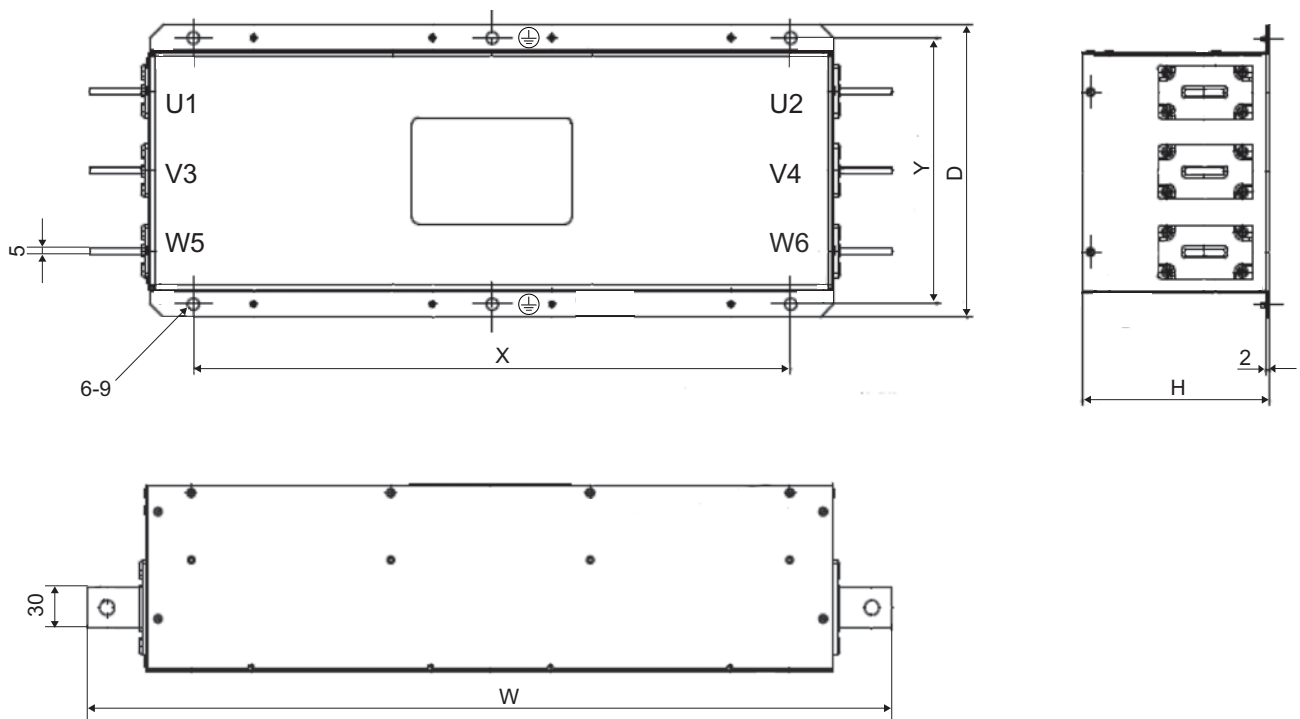

Figure D.10 EMC Filter Dimensions (2A0065 to 2A0130)
| 2A0065 | B84143B0320T176 | EPCOS | 320 | 20.7 (55) | 605 × 140 × 220 (23.8 × 5.5 × 8.6) | 200 × 450 (7.9 × 17.7) | Figure D.10 |
| 2A0090 | B84143B0320T176 | EPCOS | 320 | 20.7 (55) | 605 × 140 × 220 (23.8 × 5.5 × 8.6) | 200 × 450 (7.9 × 17.7) | Figure D.10 |
| 2A0130 | B84143B0400T176 | EPCOS | 400 | 20.9 (55) | 605 × 140 × 220 (23.8 × 5.5 × 8.6) | 200 × 450 (7.9 × 17.7) | Figure D.10 |